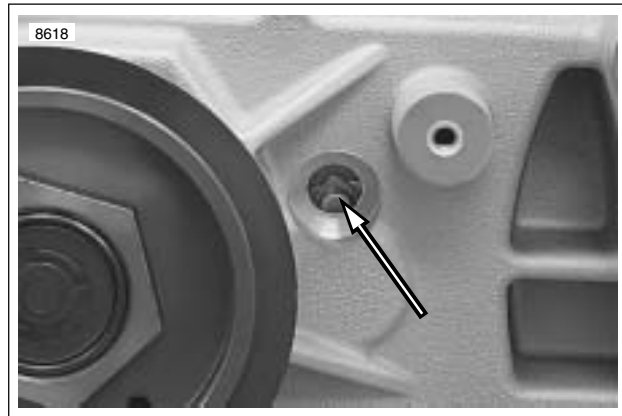

Figure 6-48. Shifter Drum Neutral Detent
9. See Figure 6-48. Place transmission in neutral. Remove neutral switch to ensure shifter drum detent is visible indicating transmission is in correct location.